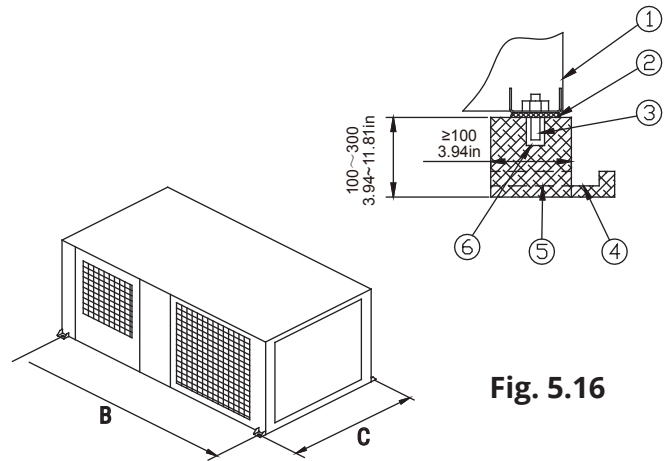

Fig. 5.16
- Make concrete foundation according to the specifications of the outdoor units. (Refer to **Fig.5-16** on the following page)